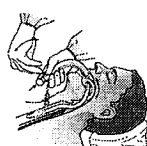

Figure 5
3. Gently tap or swing the device handle caudally around the chin. Using curvature of the airway tube, slide the device out of the pharynx into the oral cavity, applying counter pressure to the ETT with the finger (Fig.5).